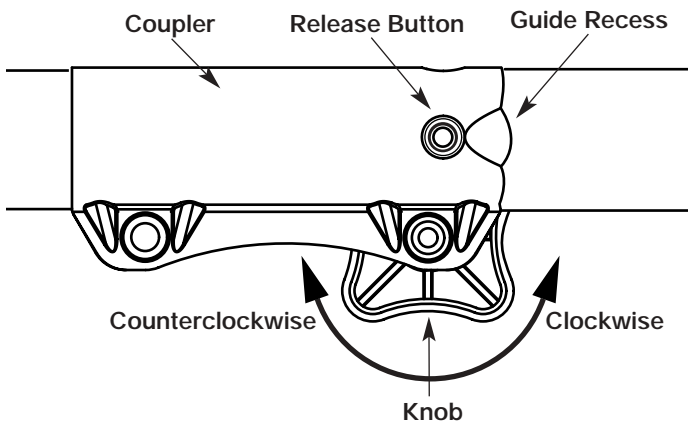

Fig. 7
1. Turn the knob counterclockwise to loosen (Fig. 7).
2. Press and hold the release button (Fig. 7).
1. Turn knob counterclockwise to loosen (Fig. 7).
**NOTE:** Aligning the release button with the guide recess will help installation (Fig. 7).